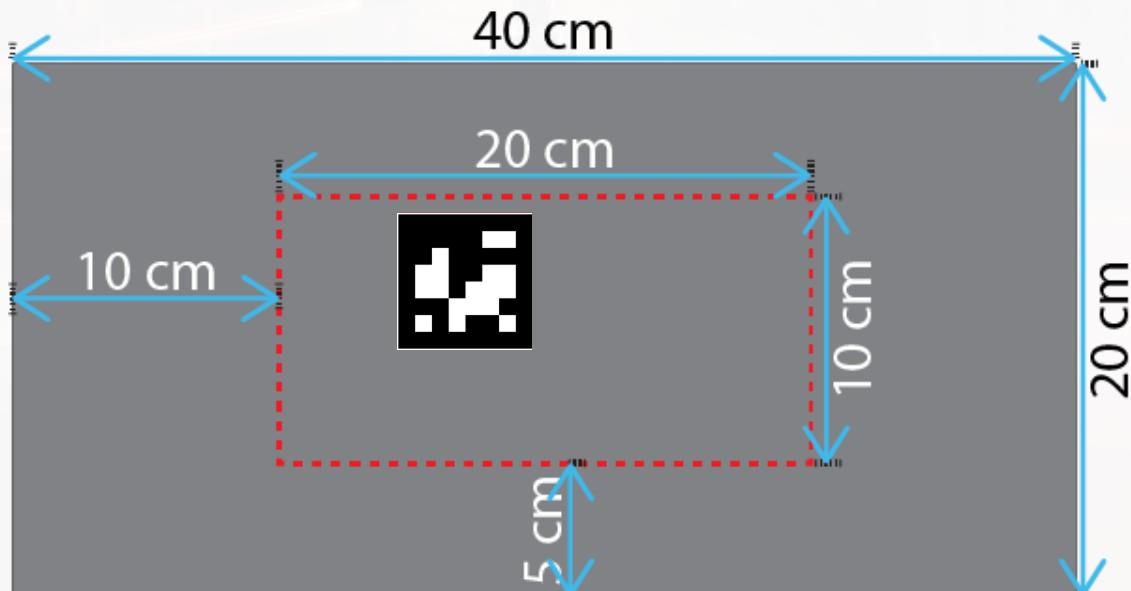

Figure 7 – Region where an April-Tag may be placed on a wall (For indication only. No physical red marking will appear in the actual arena)
- In Task 1, April-Tags will be placed within the region indicated in Figure 7 and **will not always be located at the geometric center of a wall.**